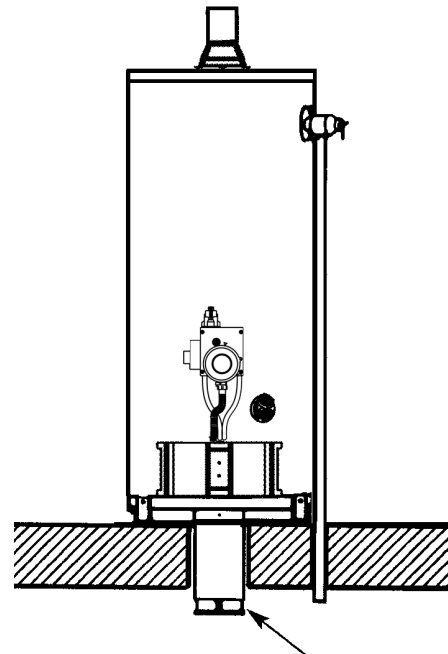

FIGURE 18.
- Remove the screws which attach the wind baffle to the existing metal air intake vent pipe underneath the home. Discard the wind baffle and screws. See Figure 18.